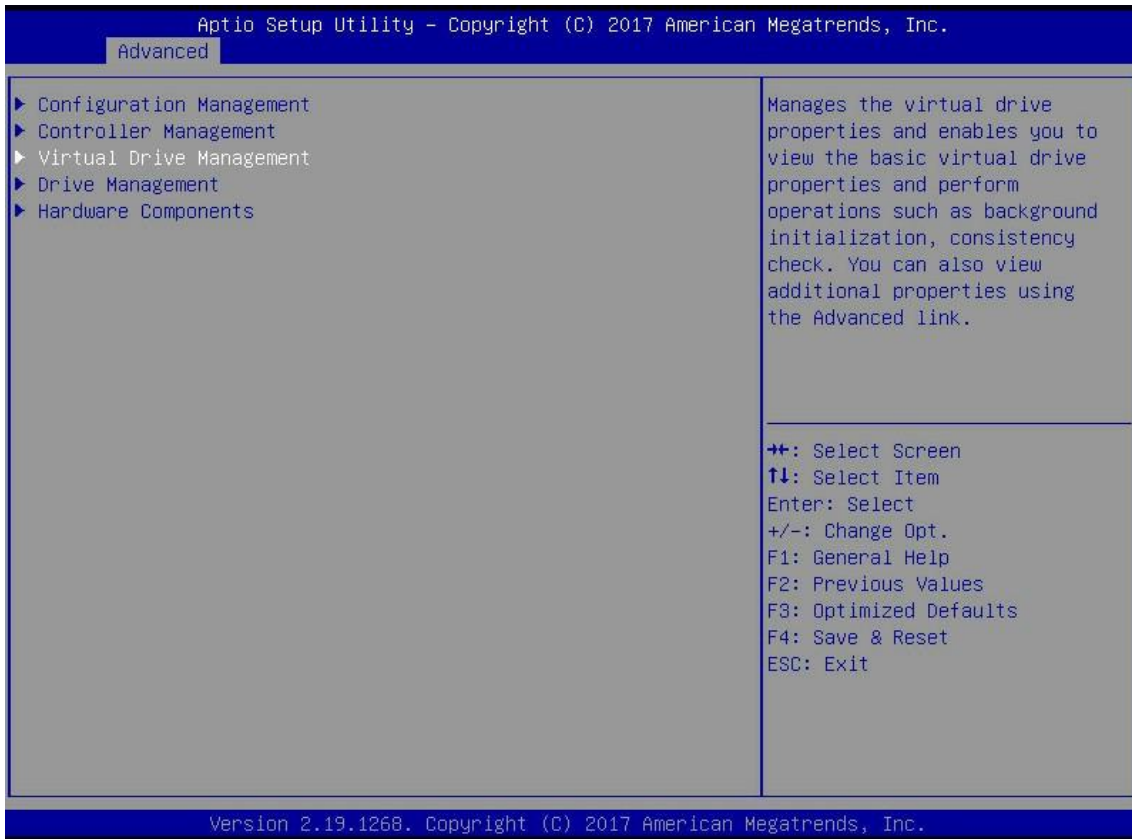

Figure 6-60
- a) As shown in Figure 6-60, select virtual drive management in the raid card configuration interface and press enter.